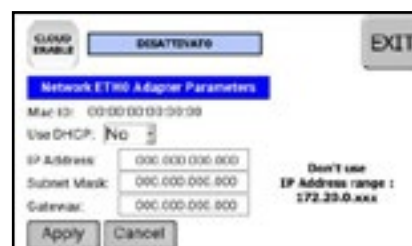

FIG. 2
- DHCP:** DHCP server automatically assigns the IP address. For this choice, select YES in the USE DHCP box (Fig. 2). The IP ADDRESS box will always display the ID address that has been automatically assigned
- Static IP:** For this choice, select NO in the USE DHCP box (Fig. 2). Manually type IP ADDRESS – SUBNET MASK and GATEWAY address codes of the company network (Fig. 2). Press Apply.